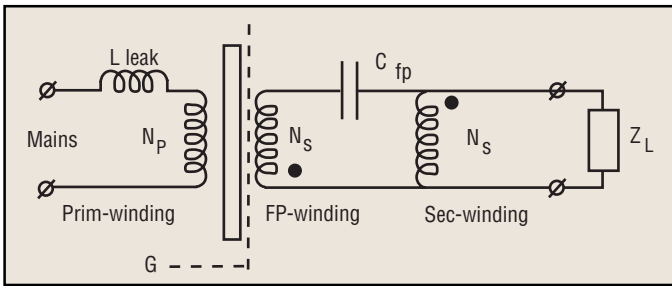
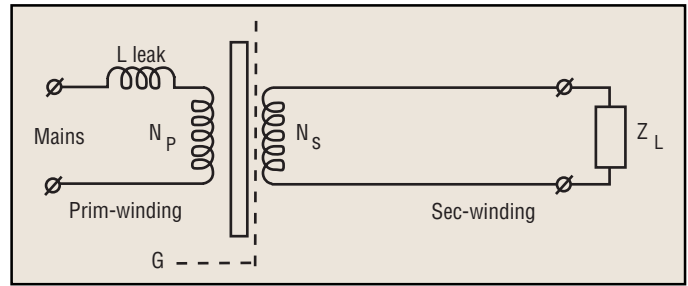

Fig. 4. NBT with the external capacitor and control winding used where extreme extended high-frequency attenuation is required.
Fig. 5. NBT circuit with standard construction. Attenuation is similar to external filter (Fig. 3). No series inductors or ground capacitors are required.
We can use these two systems either combined (Fig. 4) or individually (Fig. 5). The value for leakage inductance L_{leak} is calculated through the following equation:
To extend the attenuation bandwidth into the gigahertz range, phase cancellation is obtained by connecting a bifilar-wound control winding in contraposition through a capacitor, C_{fp} , as shown in Fig. 4. The optimum value of C_{fp} is computed through P-Spice modeling, using Butterworth tuning:
To increase the usable frequency range, a capacitor can be added across a special control transformer winding. As depicted in Fig. 4, the secondary winding is extended with an extra winding (control winding), which has an equal
When the control winding is used to deliver energy to an extra secondary load, more efficient use of copper is made (Fig. 4). When the loads are equal, the total effective current through connection (2) becomes zero (phase cancellation). When connecting (2) to ground, a clean ground reference is created without high-frequency noise.